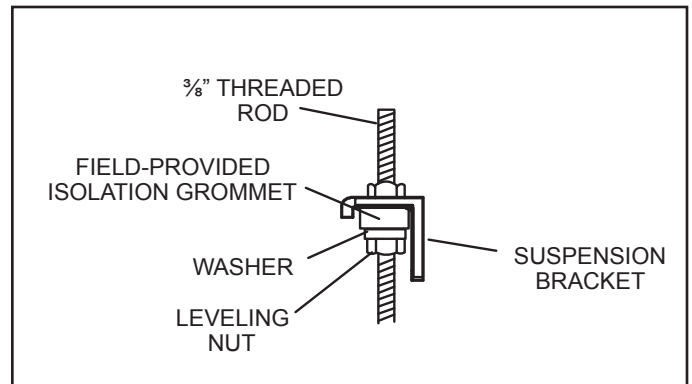

Figure 4. Isolation Grommet
- Install a field-provided isolation grommet as shown in figure 4 to prevent transmission of vibration from unit to structural ceiling.
5. It is recommended to install a field-provided isolation grommet as shown in figure 4 to prevent transmission of vibration from unit to structural ceiling.